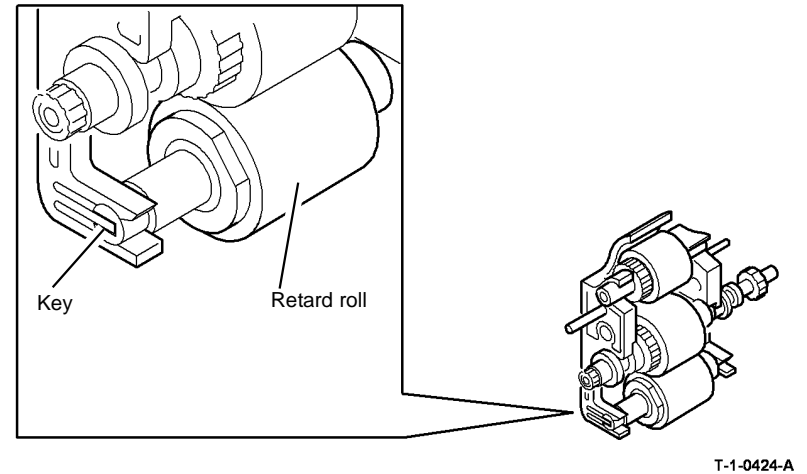

Figure 2 Retard roll position
1. The replacement is the reverse of the removal procedure. When the feed rolls are installed, make sure the lowest roll, (retard roll), is positioned as shown in Figure 2.